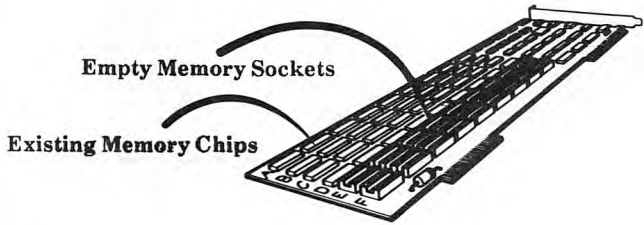

Figure 2-4. Location of memory chips on the board.
- Grasp the board by the top and bottom edges and lift it straight up. **Be careful not to cut yourself on the board's pins and components.** All existing chips will be in rows across the upper left corner of the board as shown in Fig. 2-4.